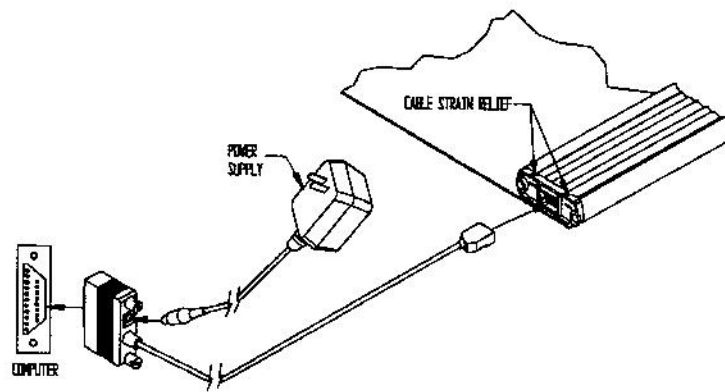

Figure 2-1: Connecting the serial and power cables. The cable strain relief is used to hold the remaining cable length in place.
3. Connect the serial cable to the socket on the end of the controller housing (see Figure 2-1). Connect the free end of